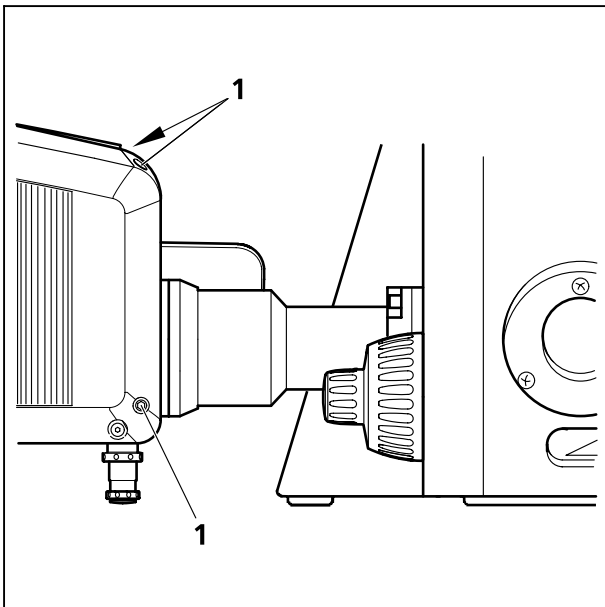
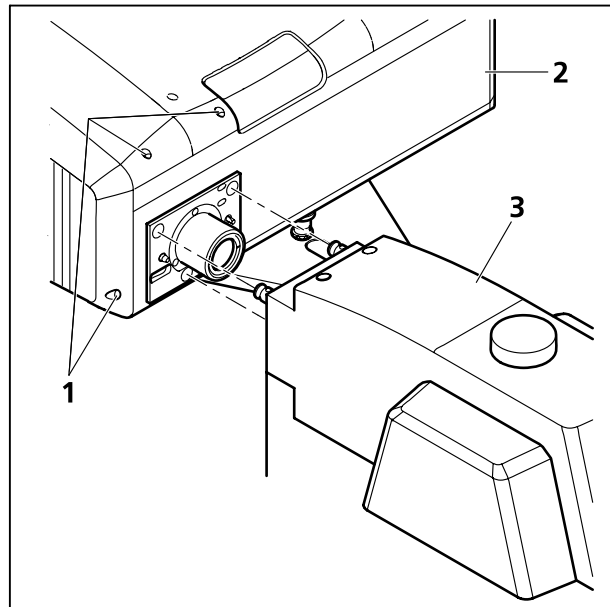

Fig. 1-22 Port connection between LSM and Axio Observer.Z1
Fig. 1-23 Port connection between LSM and Axio Examiner or Axio Imager.Z2
- Loosen the three fastening screws of the LSM 710 (Fig. 1-22/1 and Fig. 1-23/1).
- Slowly pull the scanning module (Fig. 1-23/2) away from the microscope port or the tube (Fig. 1-23/3).
- Fasten the three fastening screws of the LSM 710 (Fig. 1-22/1 and Fig. 1-23/1).